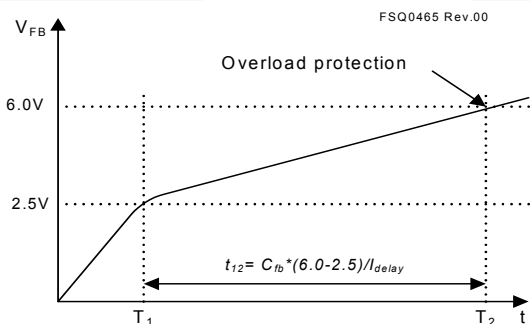

Figure 29. Overload Protection
4.1 Overload Protection (OLP): Overload is defined as the load current exceeding its normal level due to an unexpected abnormal event. In this situation, the protection circuit should trigger to protect the SMPS. However, even when the SMPS is in the normal operation, the overload protection circuit can be triggered during the load transition. To avoid this undesired operation, the overload protection circuit is designed to trigger only after a specified time to determine whether it is a transient situation or a true overload situation. Because of the pulse-by-pulse current limit capability, the maximum peak current through the SenseFET is limited, and therefore the maximum input power is restricted with a given input voltage. If the output consumes more than this maximum power, the output voltage (V_O) decreases below the set voltage. This reduces the current through the opto-coupler LED, which also reduces the opto-coupler transistor current, thus increasing the feedback voltage (V_{FB}). If V_{FB} exceeds 2.5V, D1 is blocked and the 5 μ A current source starts to charge C_B slowly up to V_{CC} . In this condition, V_{FB} continues increasing until it reaches 6V, when the switching operation is terminated, as shown in Figure 29. The delay time for shutdown is the time required to charge C_{FB} from 2.5V to 6V with 5 μ A. A 20 ~ 50ms delay time is typical for most applications.